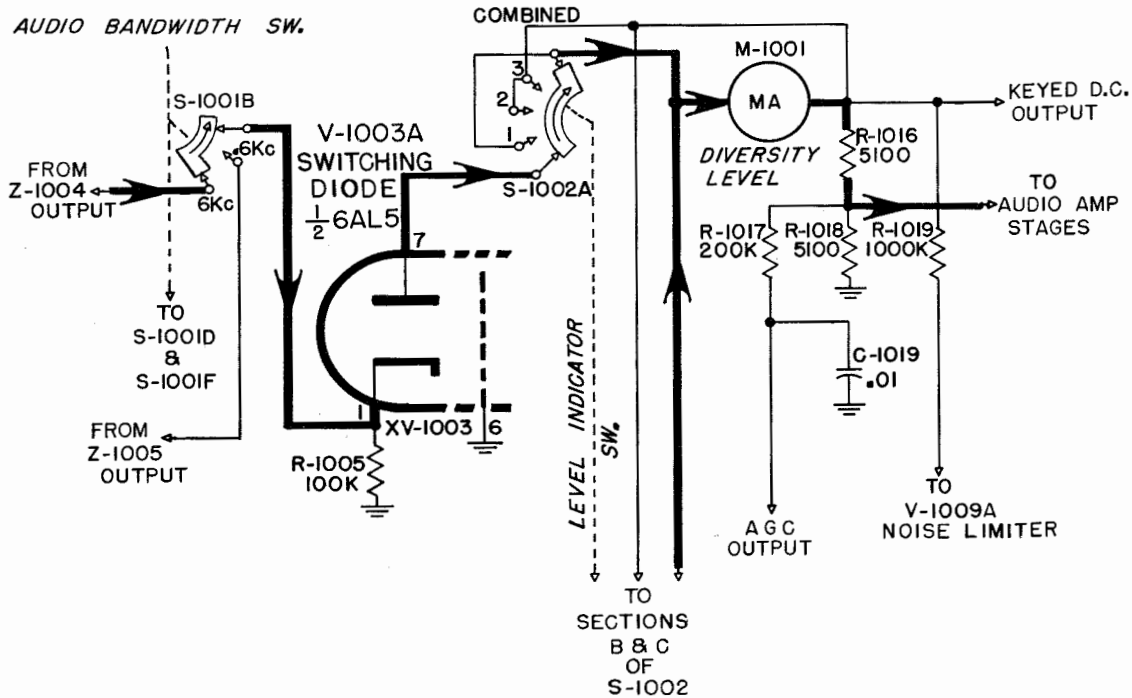

Figure 2-30. Switching Diode Stages, Simplified Schematic Diagram
(5) SWITCHING DIODE CIRCUIT DETAILS (AM-438/FRR-24). (See Figure 2-30).—Three switching diodes V-1003A, V-1003B and V-1008 are utilized in a resistive type circuit. The strongest signal will develop an equally strong D.C. signal voltage across the diode load resistors R-1016 and R-1018. A weaker input signal from either one or two of the channels in use will cause the associated switching diode tube or tubes to cease conducting as the stronger signal will place a higher negative voltage on the plate than on its cathode. In normal operating periods the Level Indicator switch S-1002 is left in the combined position. To monitor the signal level obtained from any one of the three signal input channels the Level Indicator switch can be set at the position corresponding to the channel to be monitored.